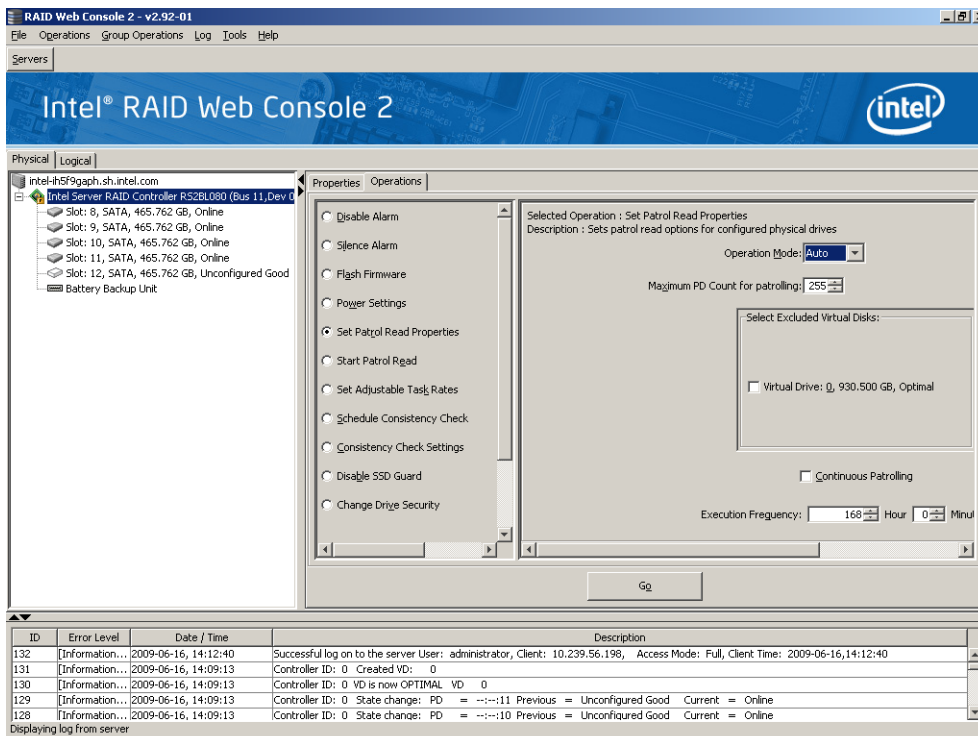

Figure 78. Patrol Read Configuration
2. Select the **Operations** tab in the right panel, and select **Set Patrol Read Properties**, as shown in Figure 78.
- **Manual:** Patrol Read runs only when you manually start it by selecting **Start Patrol Read** from the controller options screen (see Figure 78).